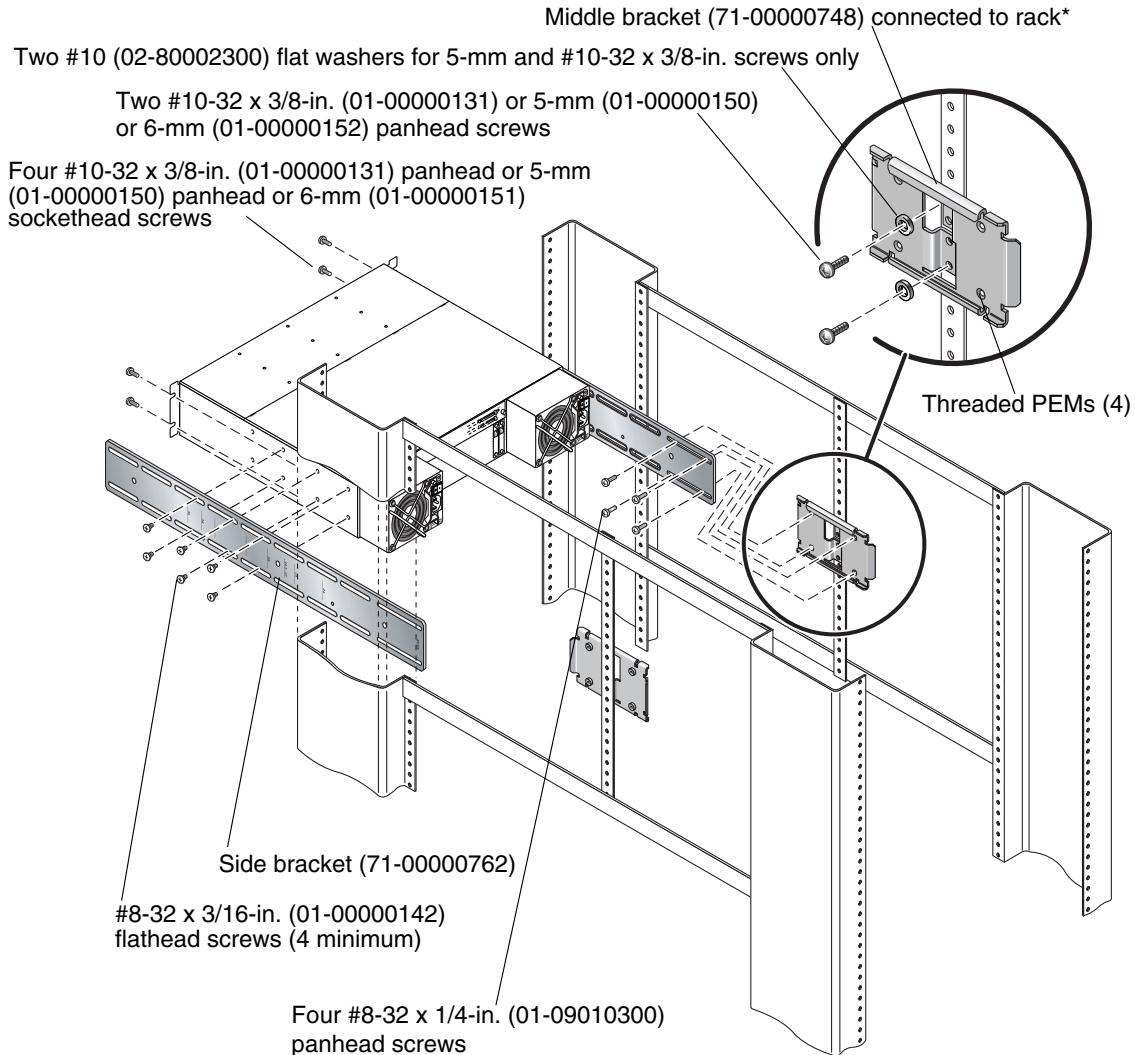

FIGURE 2-9 Cabinet Rackmount with Middle Brackets
- a. **Insert a minimum of two screws through the side bracket slots and through the middle bracket holes. (See FIGURE 2-9).**